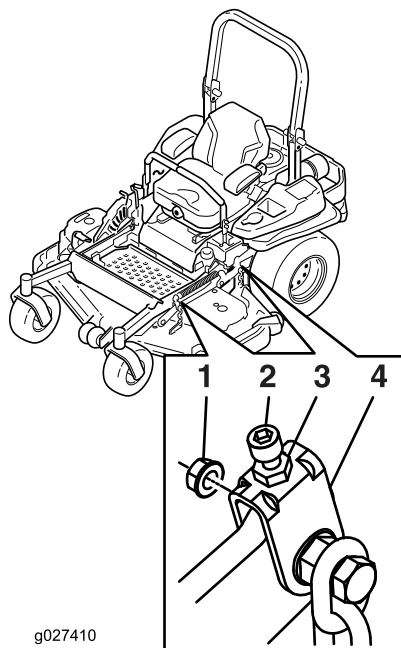

Figure 92
9. If needed, loosen the whizlock nut on the side of the yoke and the jam nut on top. Fine tune the screw adjuster by turning it to get 76 mm (3 inches) height (see Figure 92).
15. Fine tune the screw adjuster by turning it to get 8.3 mm (3-1/4 inches) height (Figure 92).